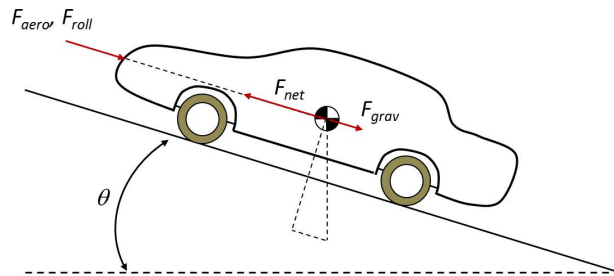

Figure 2: Free body diagram for a car.
**Problem 4.** Figure 2 below shows the key forces on a car. By Newton's second law, the longitudinal motion of the car is modeled by the following first-order ODE: